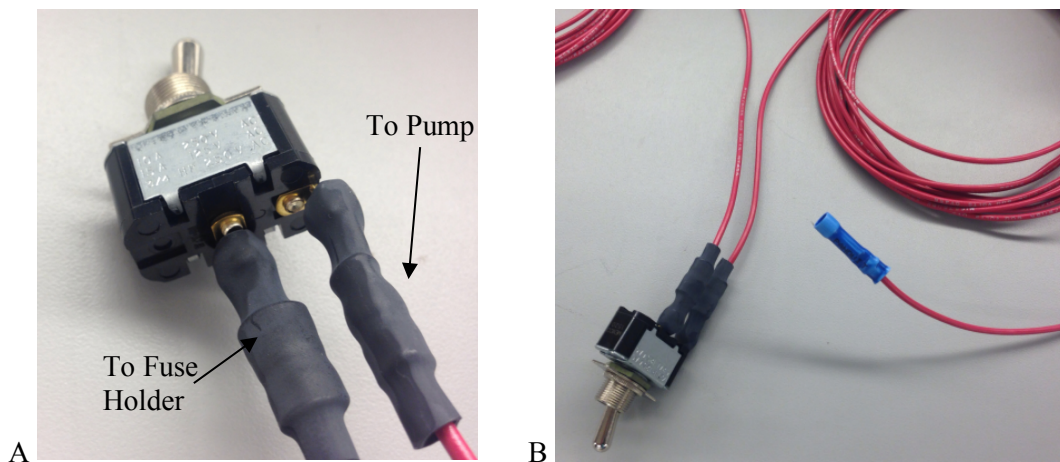

Fig. 10 (A, B) – Zoom pictures of switch and wire locations.
- b. The other side of the fuse holder connects to a 14-gauge positive wire using a splice (0211936). This positive wire (connected to the fuse holder) should reach and connect to the center position of the switch (Fig. 10.A)
- c. From the *side* of the switch, another positive 14-gauge wire is connected and extended to the positive wire of the pump (use splice 0211936 to connect) (Fig. 10.A).